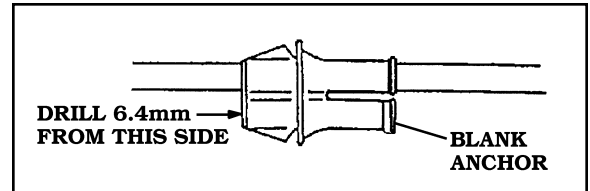

FIGURE 24
2. THIS ANCHOR IS HOLLOW EXCEPT AT ONE END. USE A **6.4MM (.25")** BIT DRILL AS SHOWN IN **FIGURE 24**.